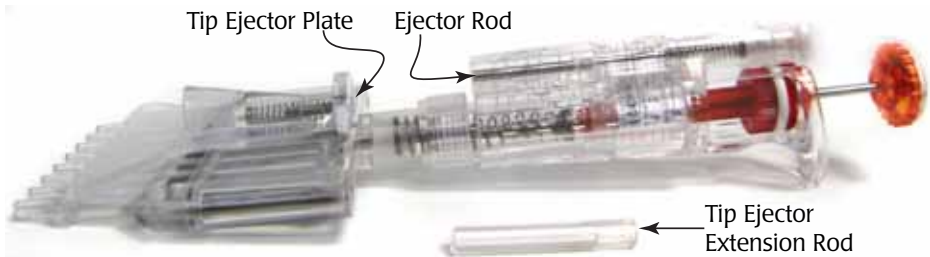

Fig. 2—Align the ejector rod with the tip ejector plate
2. Rotate the handle 90° so that the ejector rod in the handle lines up with the tip ejector plate on the back of the tip ejector unit (**Fig. 2**).